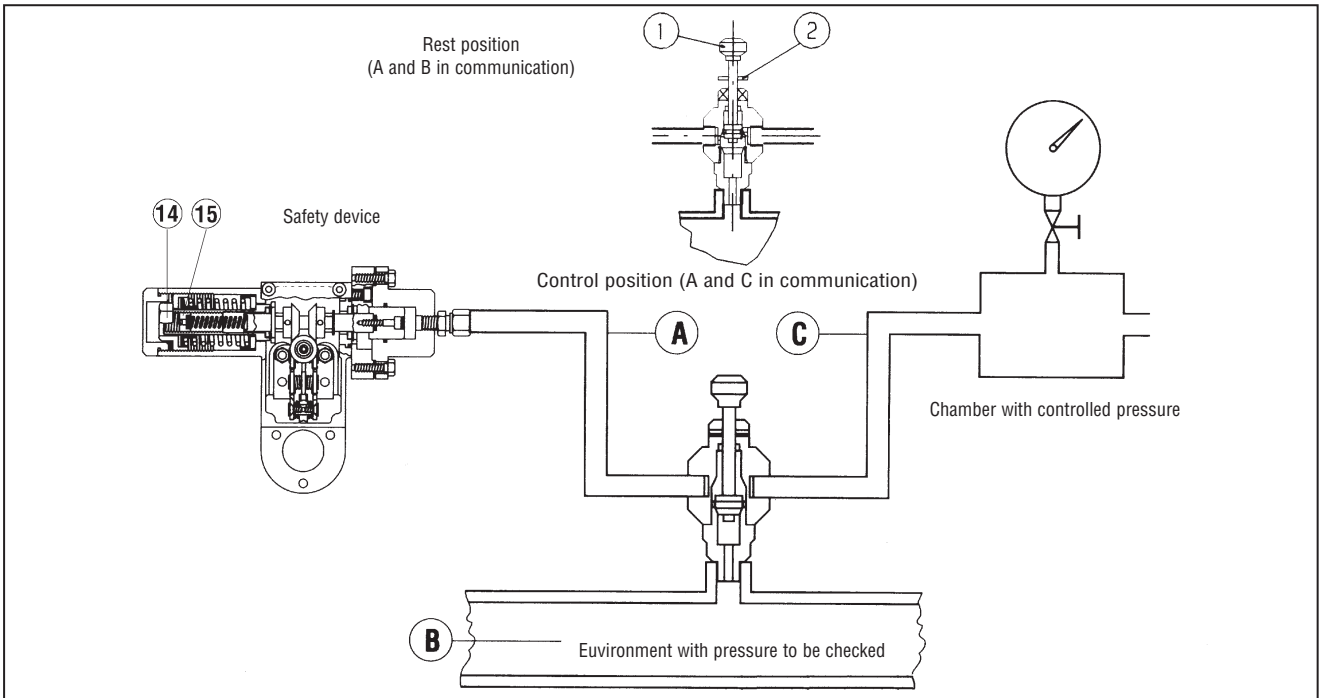

Fig. 24
A) For slam-shuts connected to the downstream piping by a three-way deviator push valve 11, proceed as follows (fig. 24):
- A) For slam-shut devices connected to the downstream piping by means of the three-way "push" valve 11, proceed as follows (fig. 24):